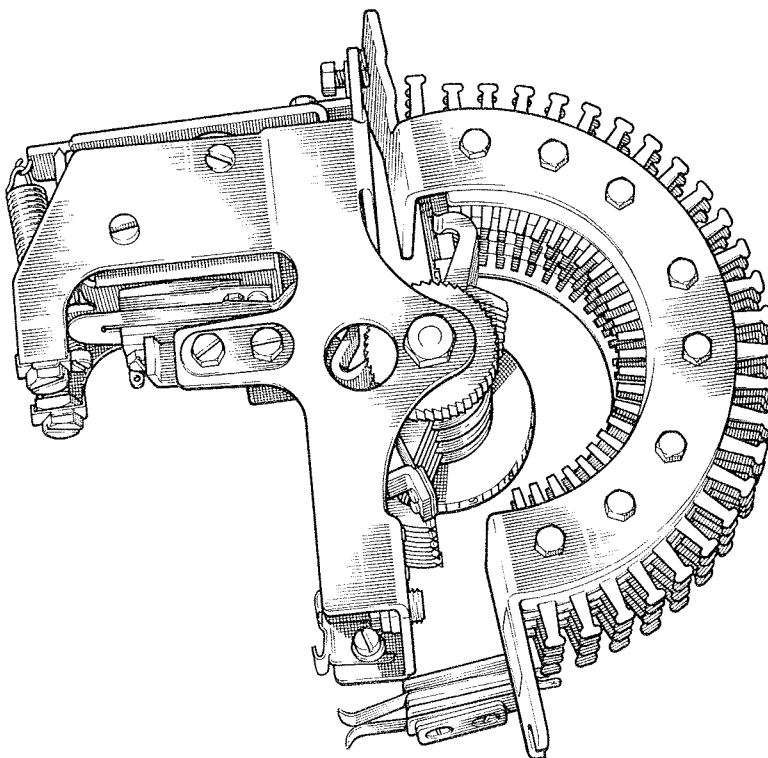

FIG. 11
6.2 Self-feed Brushes Set the wipers on position 1, as shown by the index wheel. Hold the mechanism at an angle of approximately 30° to the bank, with the upper edge of the frame touching the bank. Align the upper mechanism-fixing screws with the holes in the bank. Using the upper edge of the frame as a pivot, guide the wiper tips between the brushes on to the bank contacts, ensuring that the heels of the brushes enter the collector rings (see Fig 11). Press the mechanism gently but firmly home. A certain amount of resistance will be met during this movement as the brushes are compressed. Engage the mechanism-fixing screws and tighten by means of a box spanner.